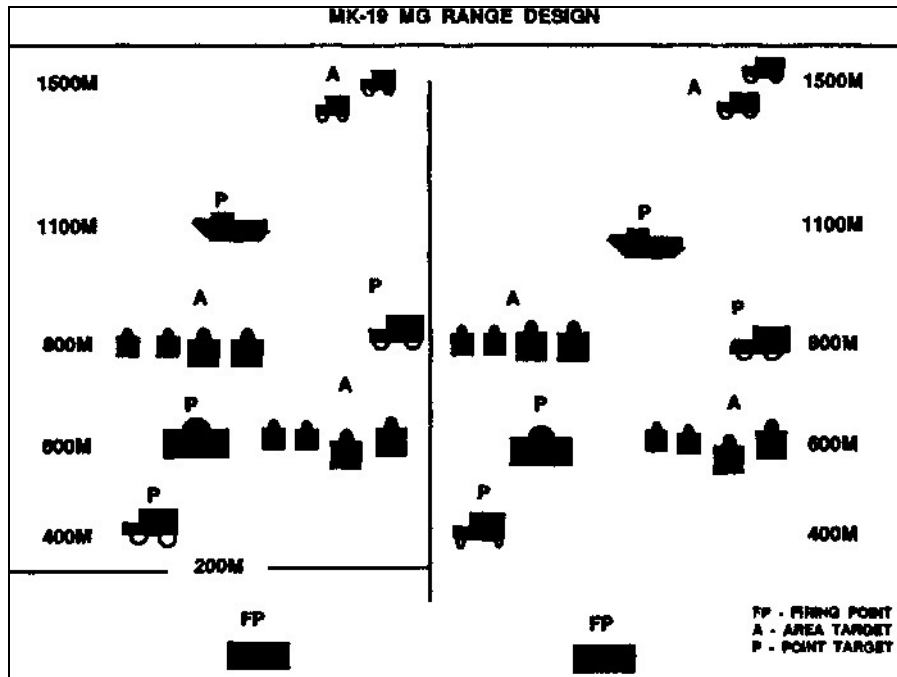

Figure 4-25. Multipurpose gunnery range for the 40-mm grenade machine gun.
a. **Multipurpose Gunnery Range for the 40-mm Grenade Machine Gun** (Figures 4-25 and 4-26). This range is designed for the conduct of individual firing exercises and qualifications against hull type targets. Details about this range can be found in TC 25-8.